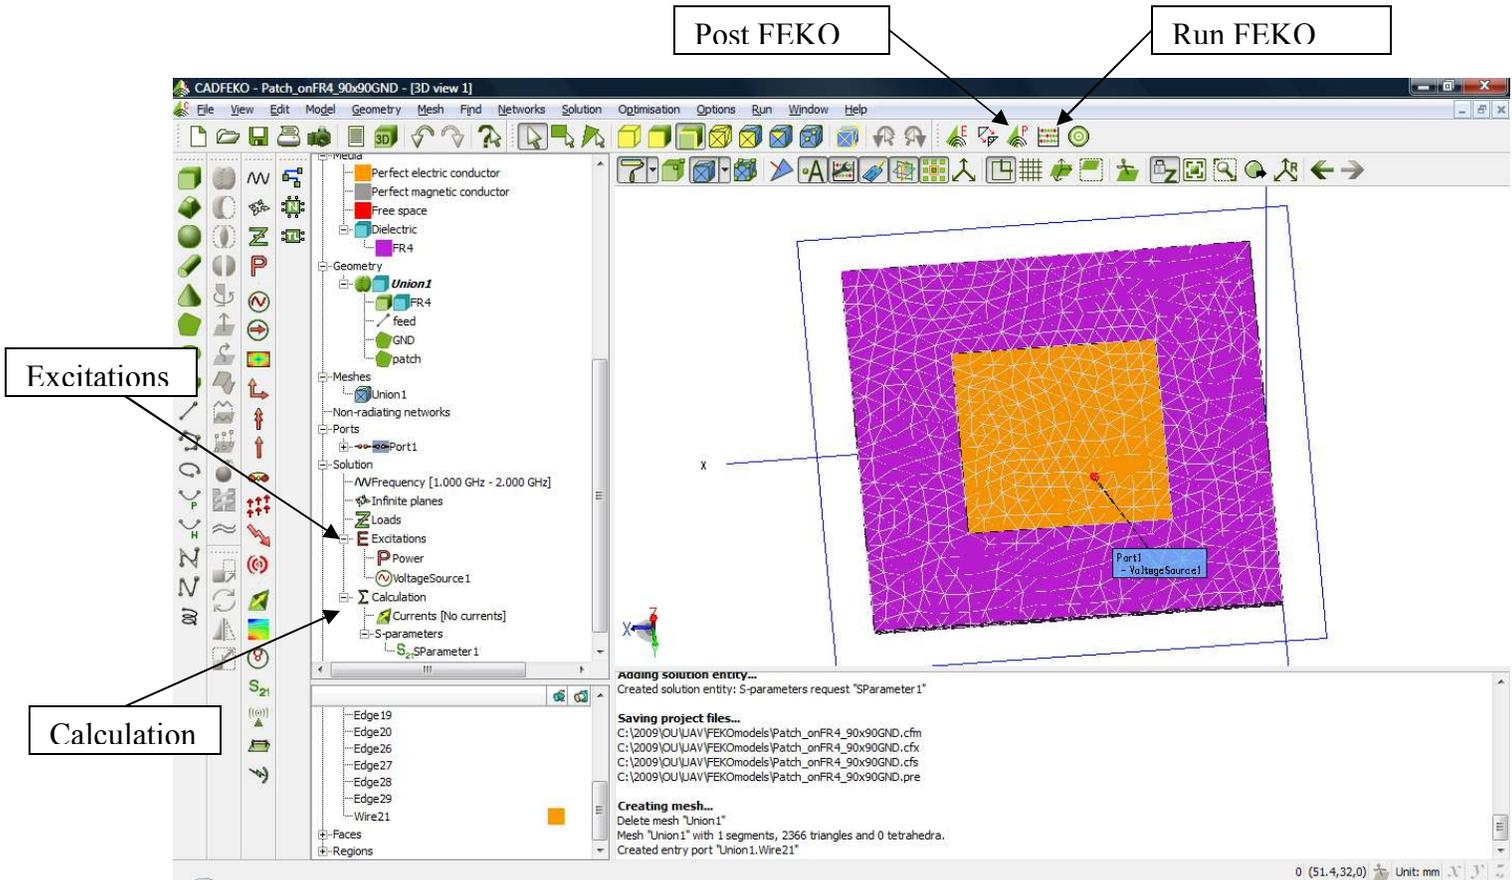

Figure 19.
23. Now you should have something that looks like Figure 19. Click on “Run FEKO” and wait for the simulation to finish*.